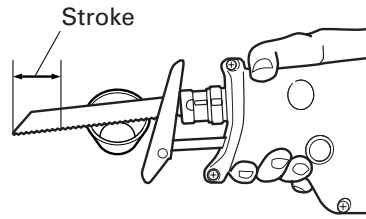
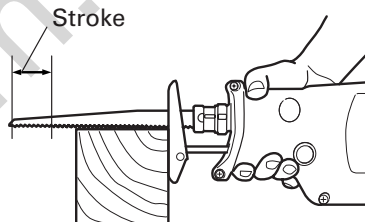

Fig. 16
Fig. 18
- Select a saw blade of the most appropriate length. Ideally, the length protruding from the base of the saw blade after subtracting the stroke should be larger than the material (see Fig. 16 and Fig. 18).